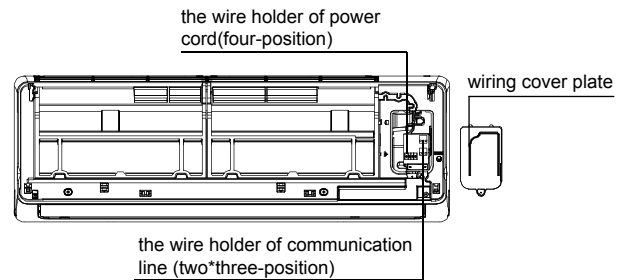

Fig.7-2
- 2 Individual connect the power cord and communication line, adjust the dial switch. (see Fig.7-2~4)